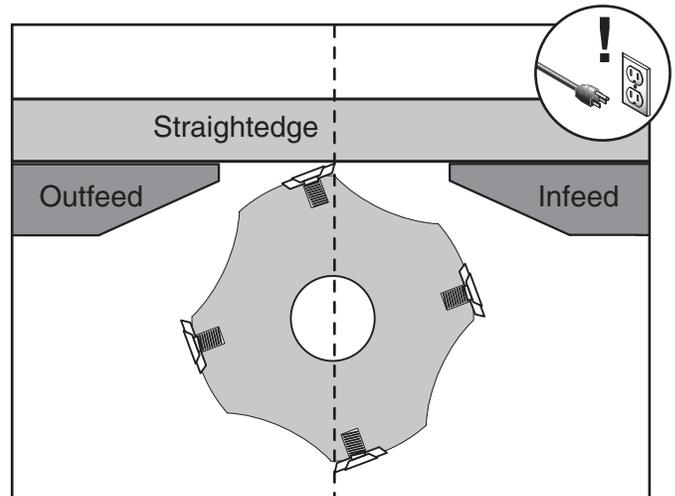

Figure 50. Infeed table adjusted even with outfeed table.
- Place straightedge across infeed and outfeed tables (see **Figure 50**).
- Adjust infeed table until it is level with outfeed table (see **Figure 50**).